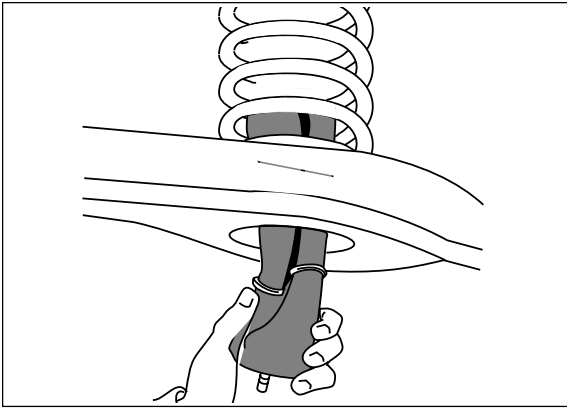

Figure 1
3. Remove plastic cap from barbed stem on end of cylinder. Exhaust the air from the cylinder by rolling it up toward barbed stem. Replace cap on stem to hold flat shape. Form cylinder into a "hot dog bun" shape. If necessary, use a string, tape, or wire to retain shape (Figure 1).
3. Insert formed air cylinder into lower coil spring seat opening with stem at the bottom (Figure 1).